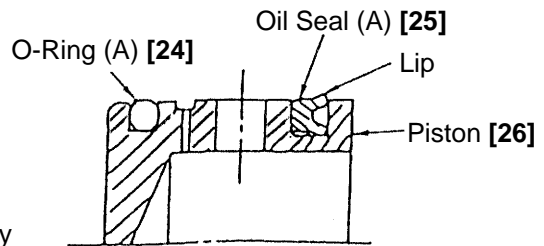

Fig. 12
- Mounting of Oil Seal (A) [25]
When mounting Oil Seal (A) [25] on the Piston [26], ensure that the lip portion of the Oil Seal is directed toward the rear surface of the Piston [26], as illustrated in Fig. 12. Prior to reassembly, thoroughly coat Oil Seal (A) [25] and O-Ring (A) [24] with grease (Grease for Impact Drill, Part No. 980927 or 981840 or 308471 is recommended), and carefully ensure they are not damaged.